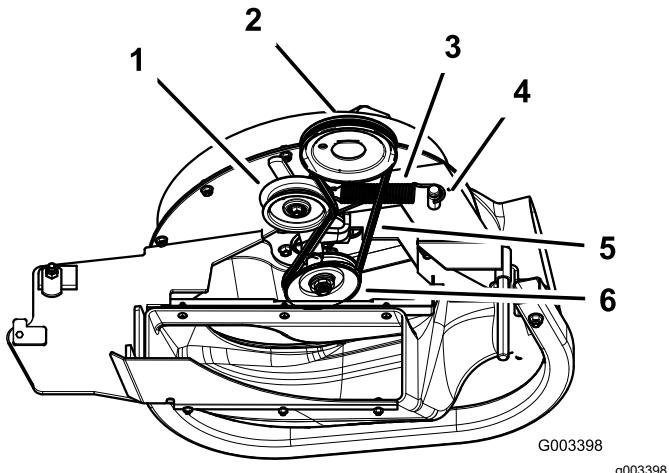

Figure 40
3. Pull back on the spring-loaded idler pulley to relieve the belt tension (Figure 40).
5. Install the new belt around the blower pulleys and the mower-deck pulley (Figure 40).
7. Pull back on the spring-loaded idler pulley and install the belt onto the spring-loaded idler pulley (Figure 40).